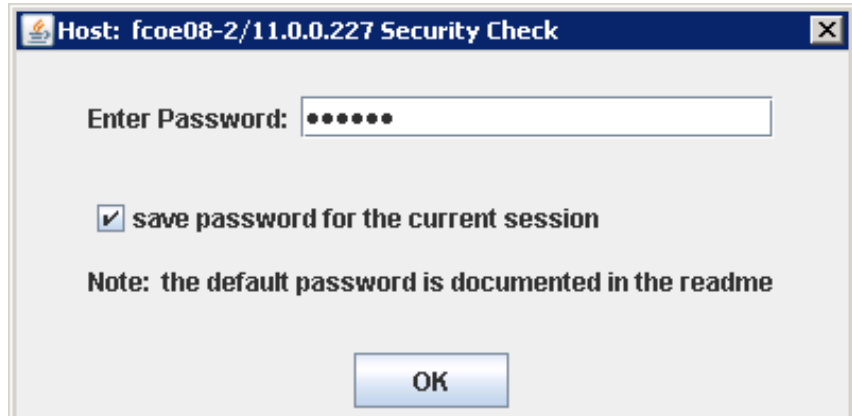

Figure 73 Security Check dialog box
6. Depending on whether you have done other configuration changes to your adapter, you may be asked for the password to make changes, as shown in Figure 73 on page 96.